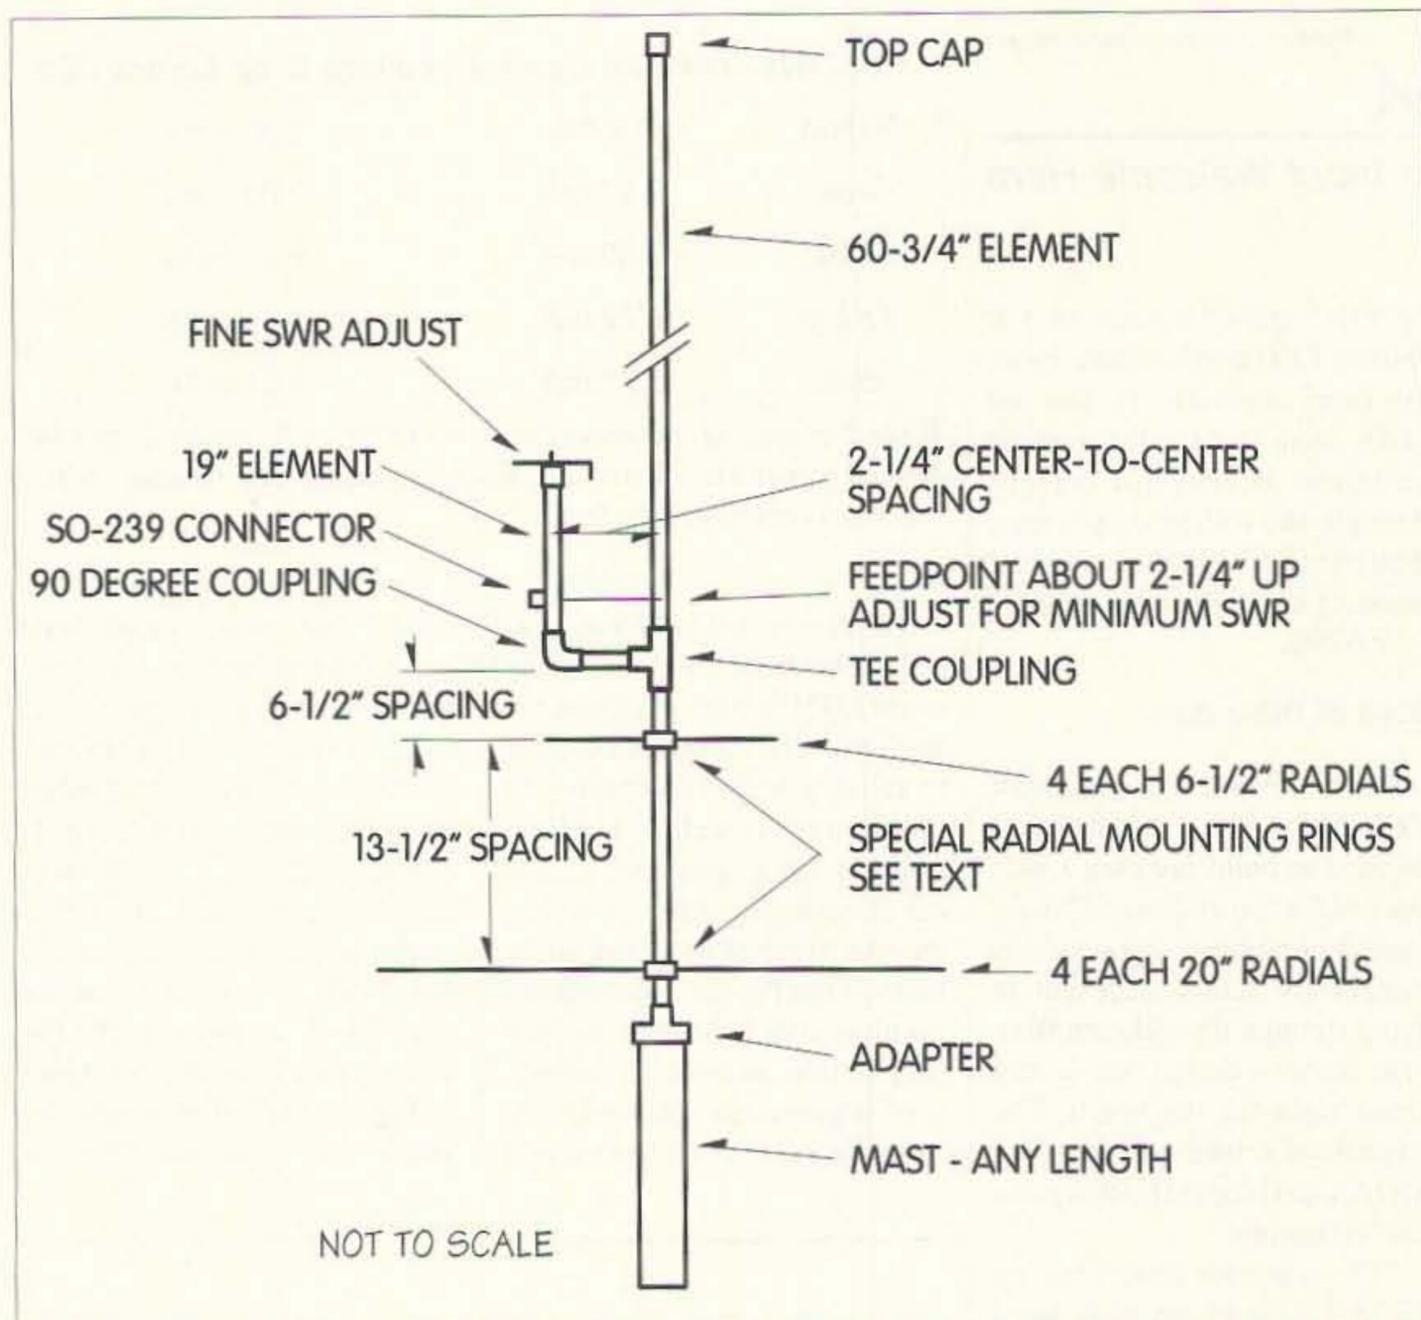

Fig. 1. VE2GMZ's "dual-band" J-pole antenna for two meters and 70 cm.
sets of four-spoked radials, one for two meters, and one for 70 cm. The 70 cm radials (each six and one-half inches long) were then positioned six and one-half inches down from the bottom of the 'J' crossover piece, and the two-meter radials (each 20 inches long), another 13-1/2 inches farther down (a total of 20 inches from the 'J' crossover). The details of the entire antenna are shown in **Fig. 1**. My reliable repeater 'reach' now increased to 95 miles
*Moderator's note: Marcel's dual-band J-pole dimensions are shown in Fig. 1, and the radial mounting ring that he made up is pictured in Photo A. Normally, a J-pole doesn't need a ground plane or radials to perform correctly. I suspect that Marcel's added radial system (for both two meters and 70 cm) tends to "decouple" the coaxial transmission line from the antenna, so that any common-mode currents that might exist on the transmission line are suppressed, and the shield of the transmission line is no longer a part of the active "radiating" portion of the antenna. This isn't uncommon at VHF and UHF frequencies, proving that "apparent" theory and "real-life" practice are often somewhat at odds. Never argue with success!*